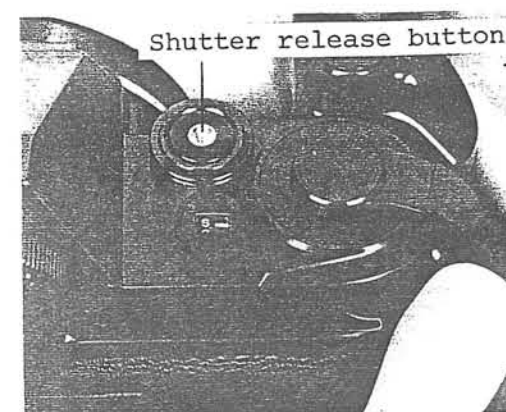

Fig. 25
8. Advance the film lever to the right and press the shutter release button until the frame counter points to a position between 0 and 2 which shows the first frame is ready for exposure. (Fig. 25)